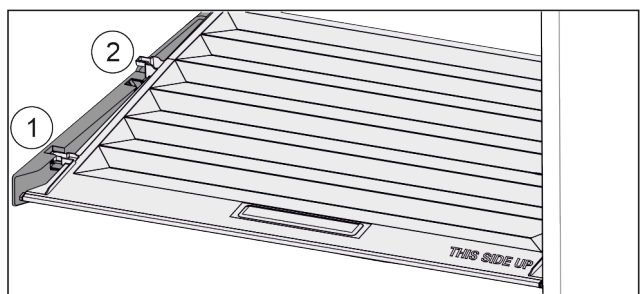

Fig. 45
- ▶ Pull the lid up at the front to the opening in the retaining parts Fig. 45 (1).
- ▶ Lift from the back and pull it up and out Fig. 45 (2).